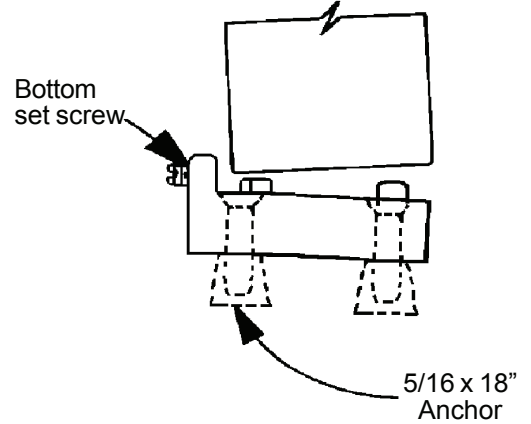

Figure 8
- 4 Insert mullion in top fitting and slide bottom of mullion into place. See Figure 8 (reverse side).
- 6 Install top mullion clamp over mullion and fitting with mounting screws. See Figure 8 (reverse side).
- 7 Adjust strikes for 1/32 clearance between latch bolt and strike. See Figure 8 (reverse side).